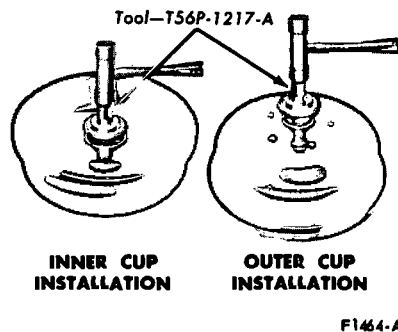

FIG. 5—Installing Front Wheel Bearing Cups—Drum
8. If the inner and/or outer bearing cup(s) were removed, install the replacement cup(s) in the hub with the tool shown in Fig. 5. **Be sure to seat the cups properly in the hub.**
11. Place the inner bearing cone and roller assembly in the inner cup. Apply a light film of grease to the lip(s) of the grease retainer and install the new grease retainer with the reverse end of the tool shown in Fig. 5. **Be sure that the retainer is properly seated.**